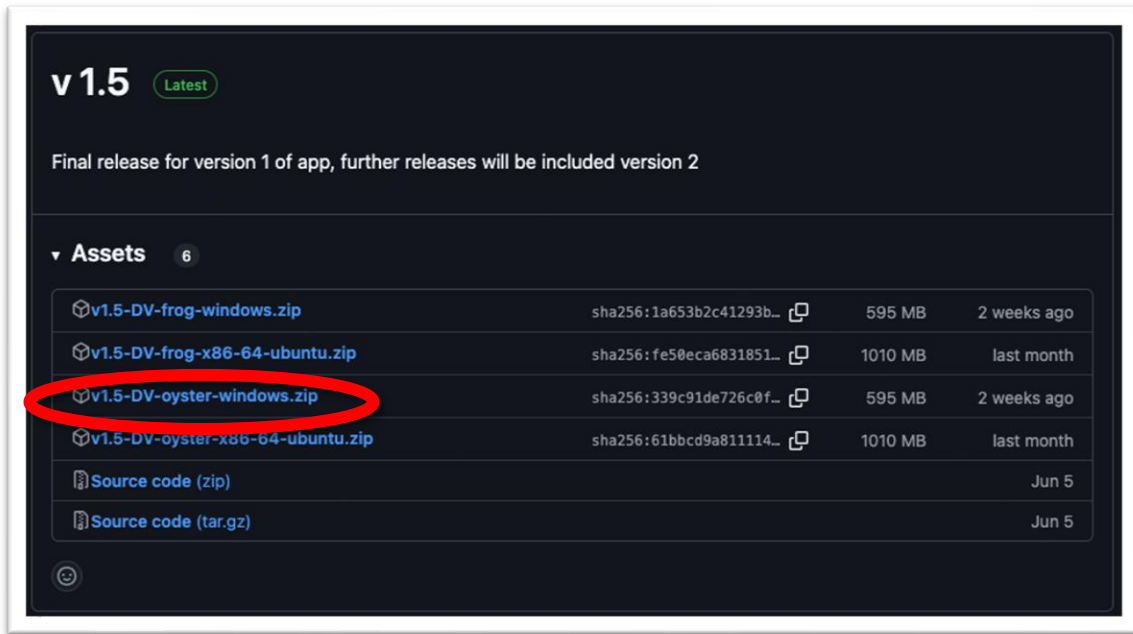

Figure 1.1. The “v1.5-DV-oyster-windows.zip” folder hosted on GitHub.
1. Go to <https://github.com/LSU-Devison/GUI/releases> and click the .zip folder named “v1.5-DV-oyster-windows.zip” to download (Figure 1.1).